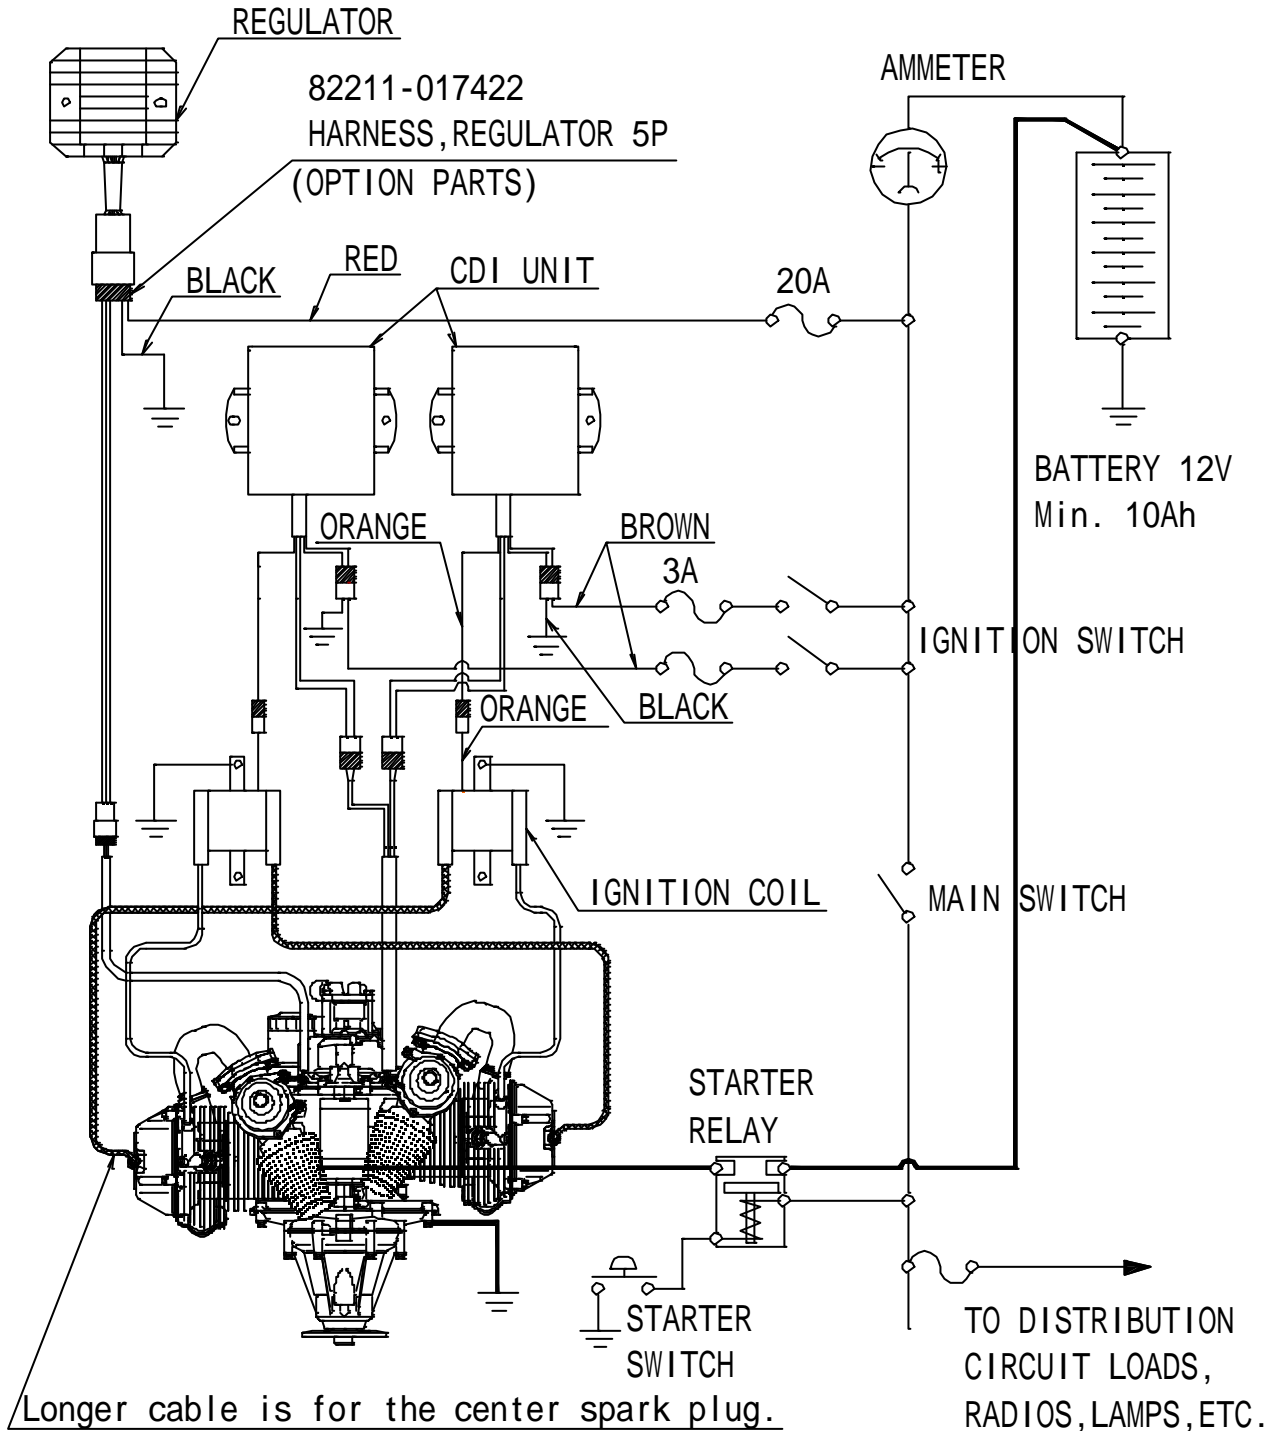

Fig.6 Electrical Equipment Wiring Diagram
Please refer to the electric equipment diagram in Fig 6.
A starter relay must be used to run the starter motor (refer to Fig.6).
- Between the electrical accessory terminal (shown as user load terminal in Fig.6) and the main power supply.
Please follow the wiring diagram in Fig.6. If an extension lead is required, please order terminal connectors.
The lengths of the two cables from the ignition coils are different. The connector on the longer cable is for the spark plug located in the center of the cylinder only. Refer to Fig.6 for connections. To avoid shorting the cable or breakage, keep the cables away from touching cylinders or cylinder heads. Protect with spiral cut polyethylene tubing, a fuel line/tie-wrap standoff or clamp if necessary.
- Recheck the wiring according the electrical schematic in Fig.6.
- Remove all four spark plug caps and remove the upper plugs (plugs marked in Fig.6) on the left and right cylinders.